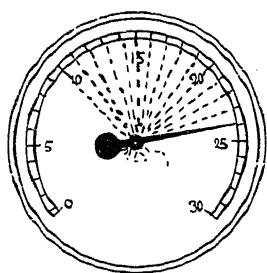

Fig. 21.—WEAK VALVE SPRINGS
**11. Weak Valve Springs (Fig. 21)**